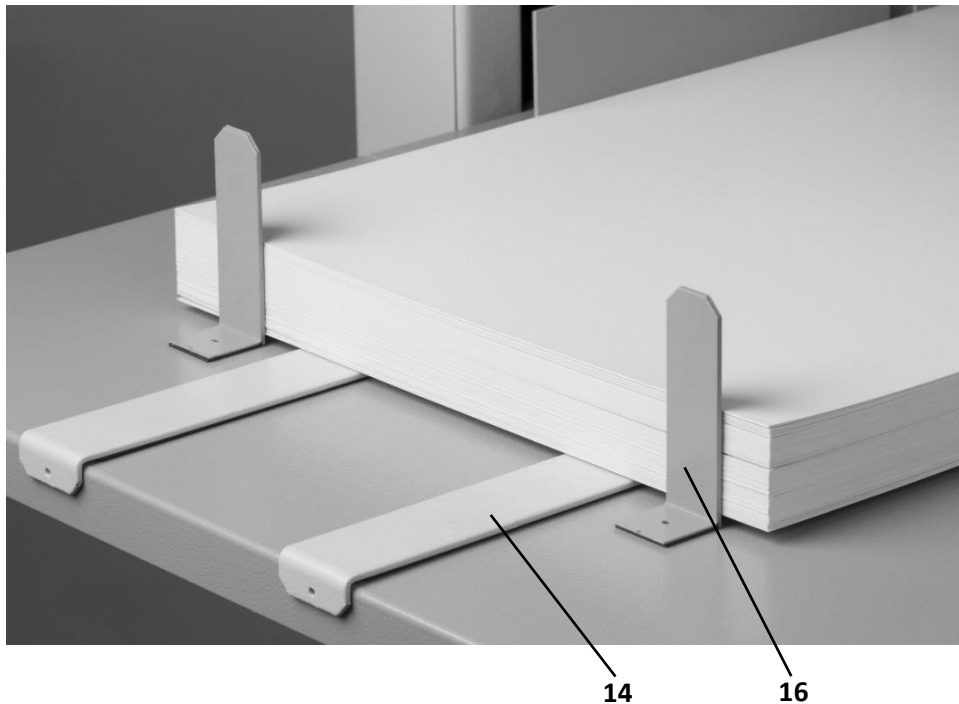

Fig. 8: Levelling Strips and Front Stops
| 4 – Electric switch | 16 – Front stop (Fig. 8) |
Front stops (16) must be placed on the feeding table behind the paper for the feeding to run properly (Fig. 8).